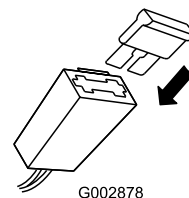

Figure 40
2. Replace the fuse in the fuse holder (Figure 40).